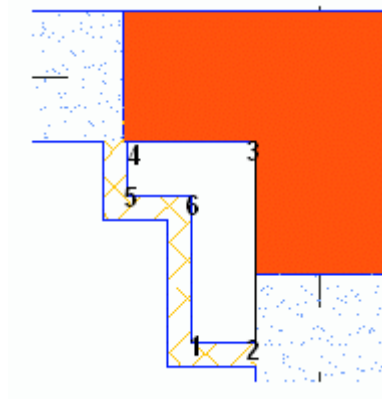

Figure 147: The steps of creating the polygonal opening
3. Create a polygonal opening, as you would draw a polyline in AutoCAD® following the numbering in the Figure 147.